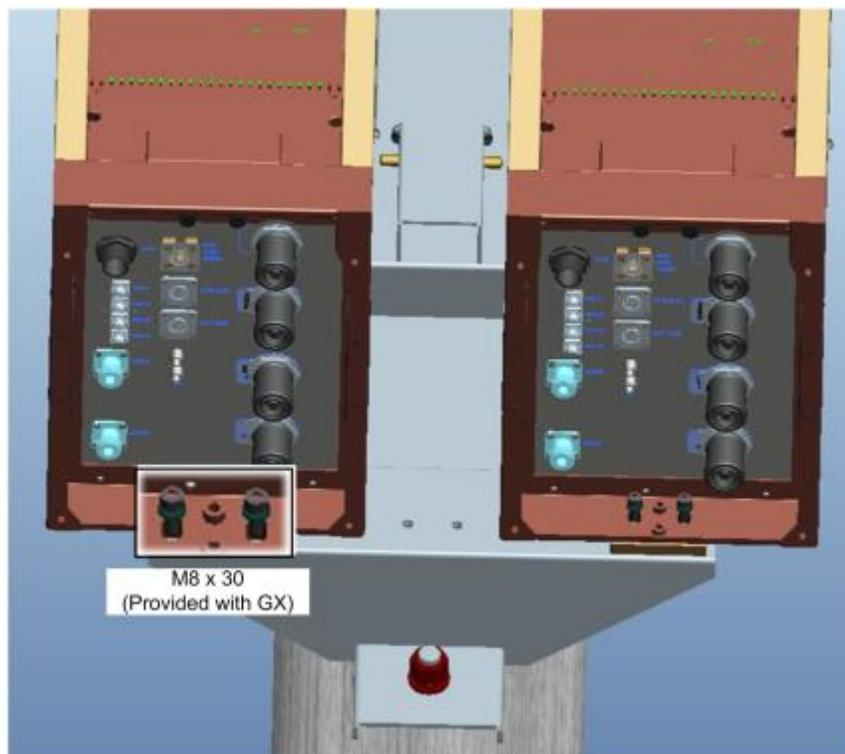

Figure 3-23. Securing GX Bottom to Bracket with M8 Screws
5. Insert the two M8 nuts on the bottom of the GX unit (provided with GX) into the appropriate bracket holes and tighten using a spanner or wrench. See Figure 3-23.